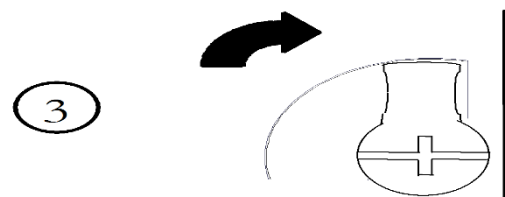

Figure 17: Move Latch to Locked Position
- 3) Turn the latch to the locked position (clockwise) to secure the power supply to the top of the ENIU module (Figure 17).